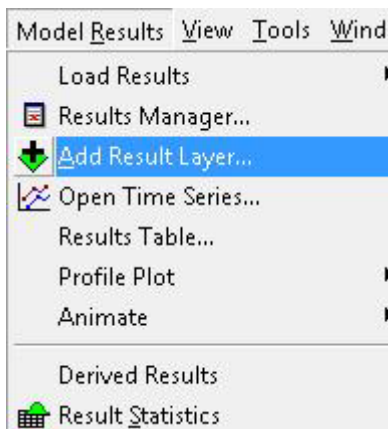

Figure 23.3 Adding a result layer to the Table Of Contents
- Go to Model Results|Add Result Layer, see Figure 23.3